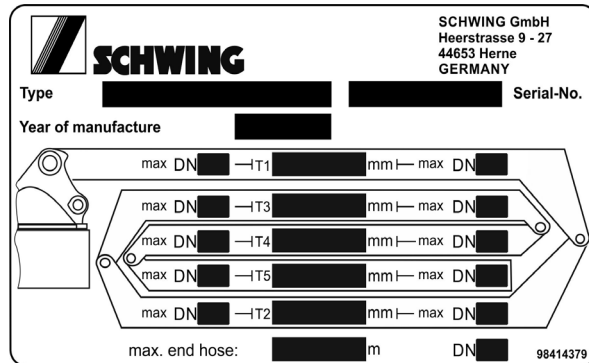

Fig. 169 Example: Type plate on 5-part boom
A distinctive type plate is located on the placing boom for the placing boom pumping line (**Fig. 169**). The nominal sizes (DN) specified on this type plate are the maximum allowable.
Caption for (Fig. 169)